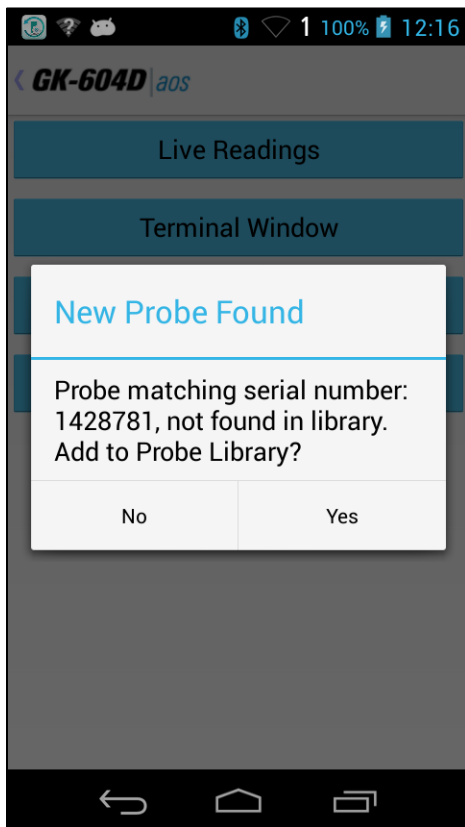
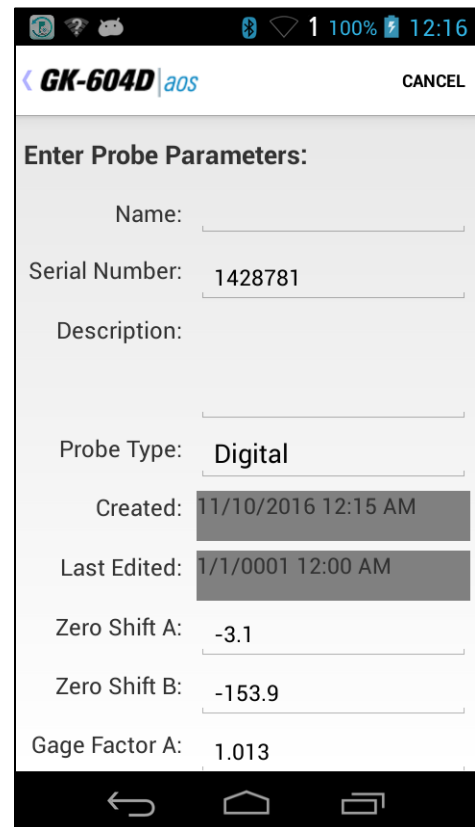

Figure 14 - New Probe Found
Figure 15 - Initial Probe Settings
- a. If the window shown in Figure 14 is displayed, then the probe has not been previously detected by the GK-604D|aos. In this case, tapping “Yes” will cause the probe to be added to the Probe Library and the Probe Settings screen shown in Figure 15 to be displayed. This allows an opportunity to give the newly detected probe a user-friendly name and description. (See Section 4.2, Probe Configuration for more information on probe settings.)